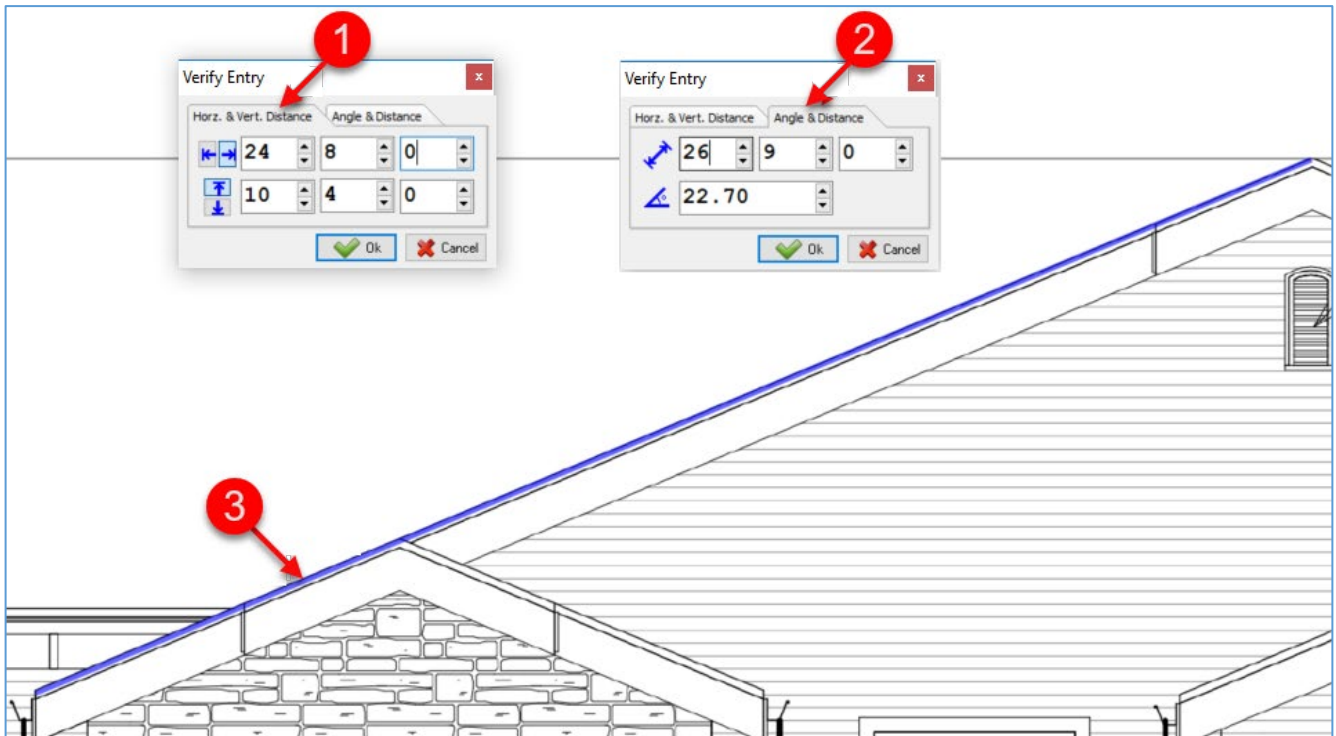

Figure 21-A
**Verify Points** can make takeoffs more accurate. To turn on **Verify Points**, click **Verify Points** or press **F6** on the keyboard. **Verify Points** will not work with **Freehand** enabled. With **Verify Points** enabled, each time you digitize a **Point**, a window will pop up called **Verify Entry**. The **Verify Entry** window (Fig. 21-A) has two tabs that allow you to specify distance and angles in two ways:
1. The **Horizontal & Vertical** tab allows you to specify by horizontal and vertical distances. In Figure 21-A, the roof line takeoff (see #3) in blue measures 24' 8" horizontally and 10' 4" vertically. If you want to change the values, enter the new values and click on **Ok**.
2. The **Angle & Distance** tab allows you to specify by slope angle and slope distance. In Figure 21-A, the roof line takeoff (see #3) slope distance is 26' 9"; its slope angle is 22.7 degrees. If you want to change the values, enter the new values and click on **Ok**.